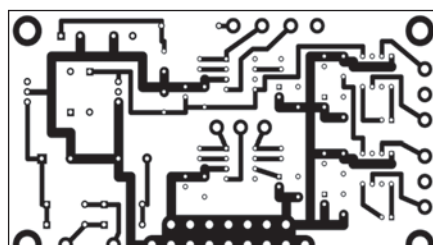

FIGURE 5: Bottom traces.
- A trace map of the bottom side of the board as shown in **Fig. 5**.